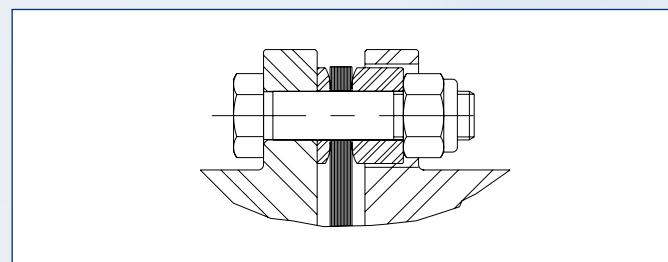

Fig. 8: G series Hardware Arrangement
- Once the hubs are aligned in the axial, angular and parallel directions, install the disc pack and sleeve. Figures 8 and 9 show the hardware orientation for each coupling type.